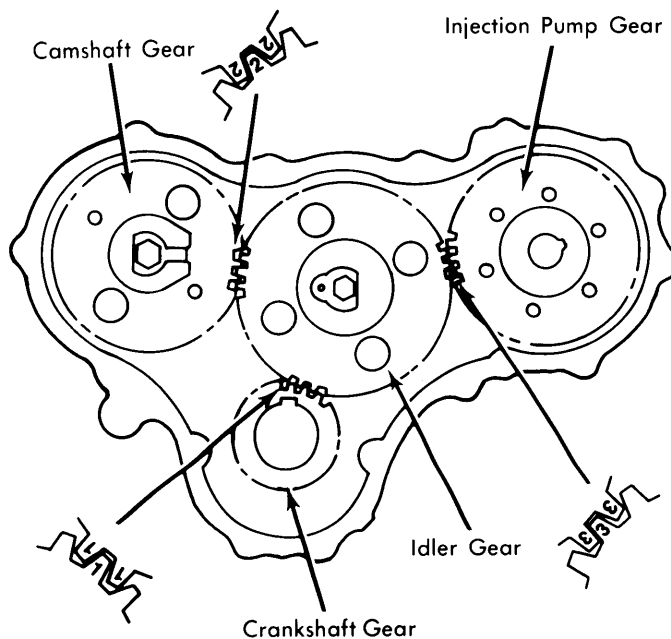

Fig. 11 Aligning Timing Gear Marks
**Installation** — 1) Be sure No. 1 cylinder is at TDC, and install idler gear with alignment marks lined up on crankshaft gear. Install thrust plate and hold down bolt. Tighten to specifications. Install camshaft gear and thrust plate with alignment marks lined up with marks on idler gear. Install injection pump so that alignment marks on pump gear match alignment marks on idler gear. See Fig. 11.